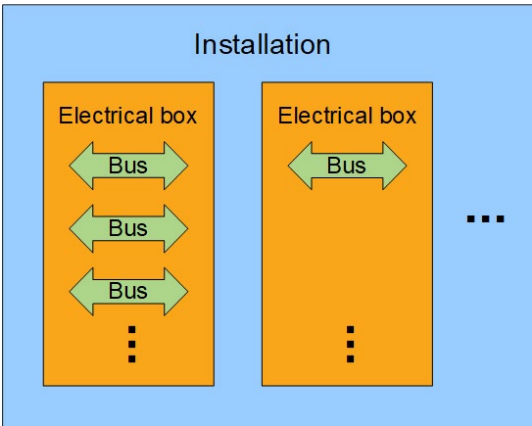

Figure 7 CcManager object hierarchy
- i** When configuring and managing the installations, it is important to be clear about the hierarchy of the objects, which appear in the CcManager interface (Figure 7). The installation will be the principal element, for example: “factory”. The installation may contain one or more electrical boxes, for example; “engine room”. Each electrical box will act as an electrical unit, in which the CcM devices will be installed and connected between themselves via buses. The buses may be connected using either cables or WiFi (for more information regarding how to create the buses, consult the manual of the CcM